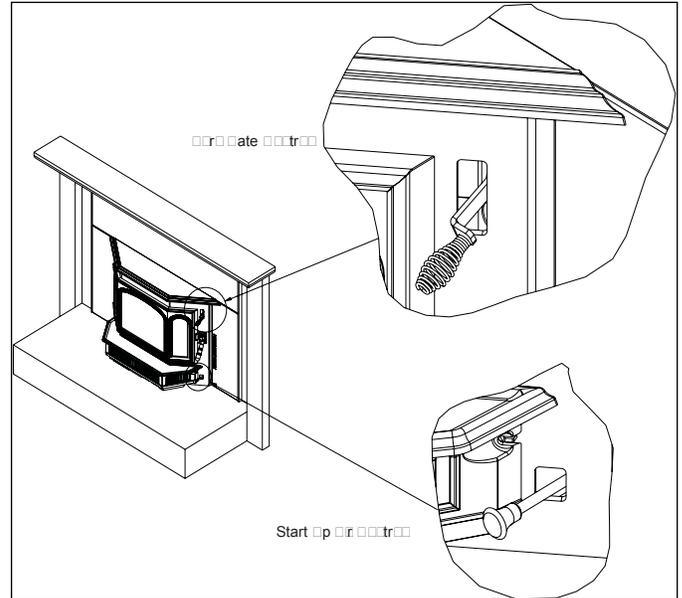

Figure 10.1 Start-up and Burn Rate Air Controls
Figure 10.1 on page 10.
- Push the Start-Up Air Control all the way back until it stops and then pull forward to the front of the appliance until it stops. **Figure 10.1.**
- The fire is now controlled by the air supplied by the Burn Rate Air Control. **Figure 10.1.**
- Push the Start-Up Air Control 3/8 inch (9.5mm) back to allow rear air to enter the firebox. **Figure 10.1.**